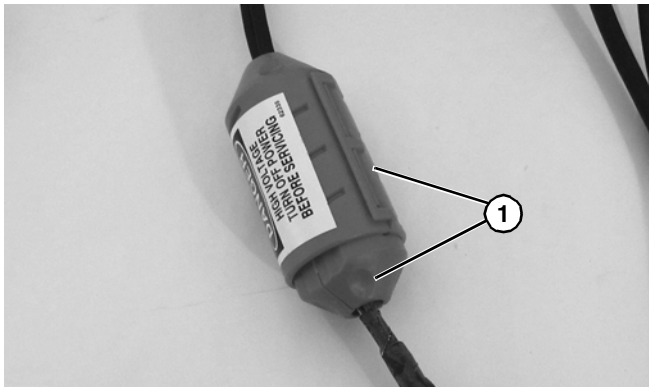

Figure 21
1. Twist covers (**Figure 21, item 1**) apart.